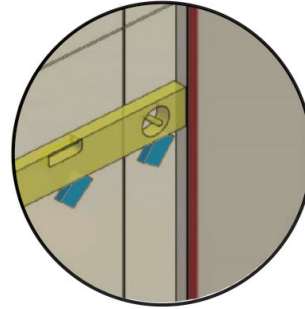

FIG 14.
- Remove backing from stabiliser blocks and press firmly onto wall (FIG 14).